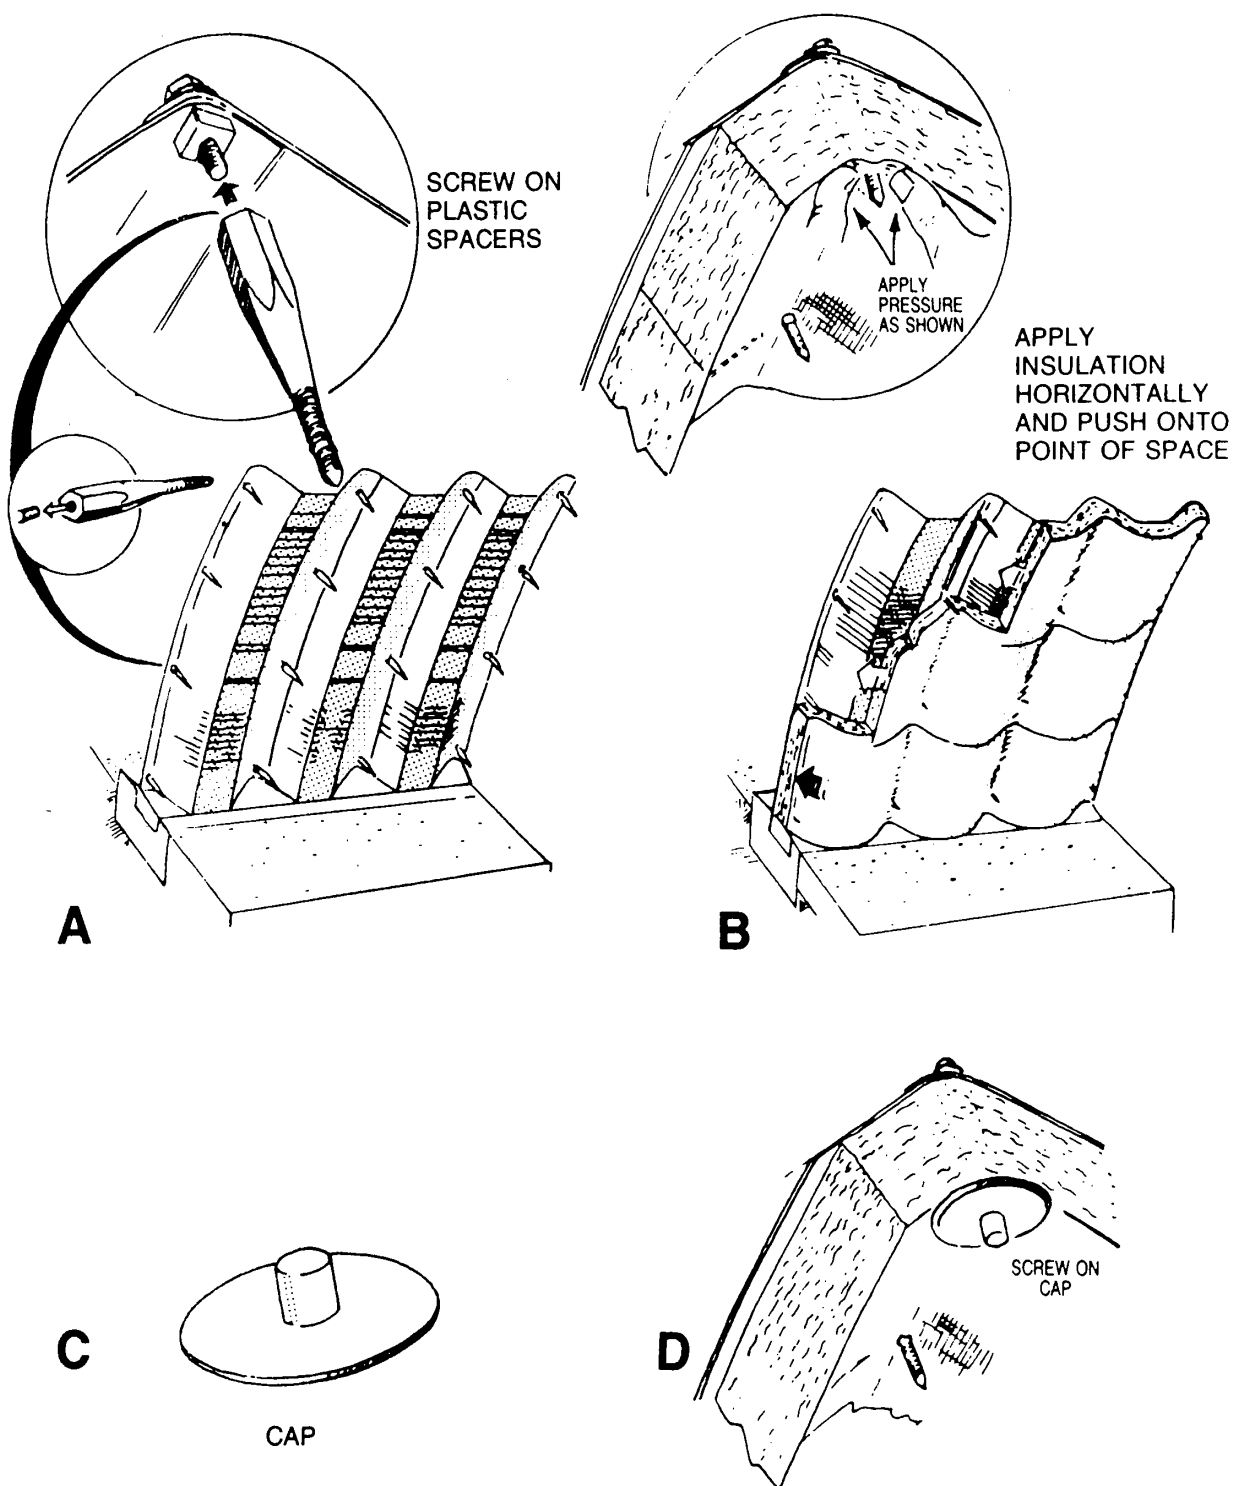

Figure 6-6A
NOTE: Apply (1) one pin and washer approximately every square yard as shown in *Figure 6-6A*.